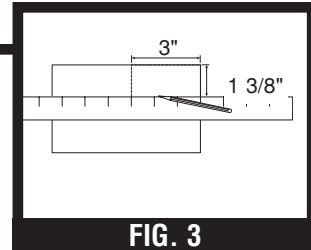

FIG. 3
4. To start roof assembly measure and draw 1 3/8" x 3" rectangle directly on largest styrene sheet as shown (FIG. 3).